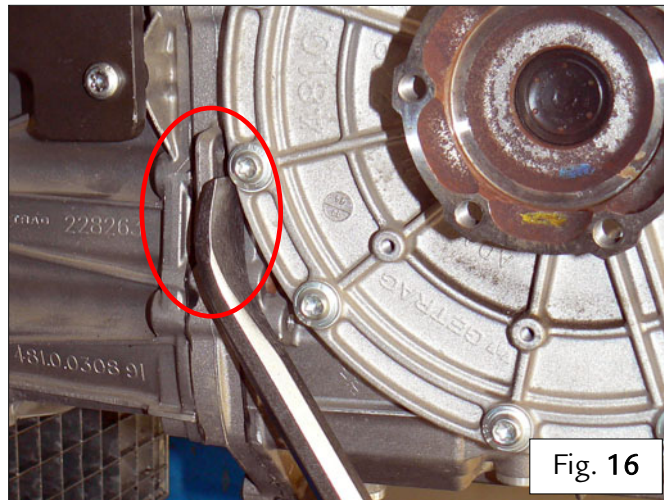

Fig. 16
- Rotate the gearbox counterclockwise to empty all the ATF clutch fluid – Fig. 16.
- Using a crowbar placed on the indicated leverage lug on the gearbox, detach the differential housing – Fig. 16.